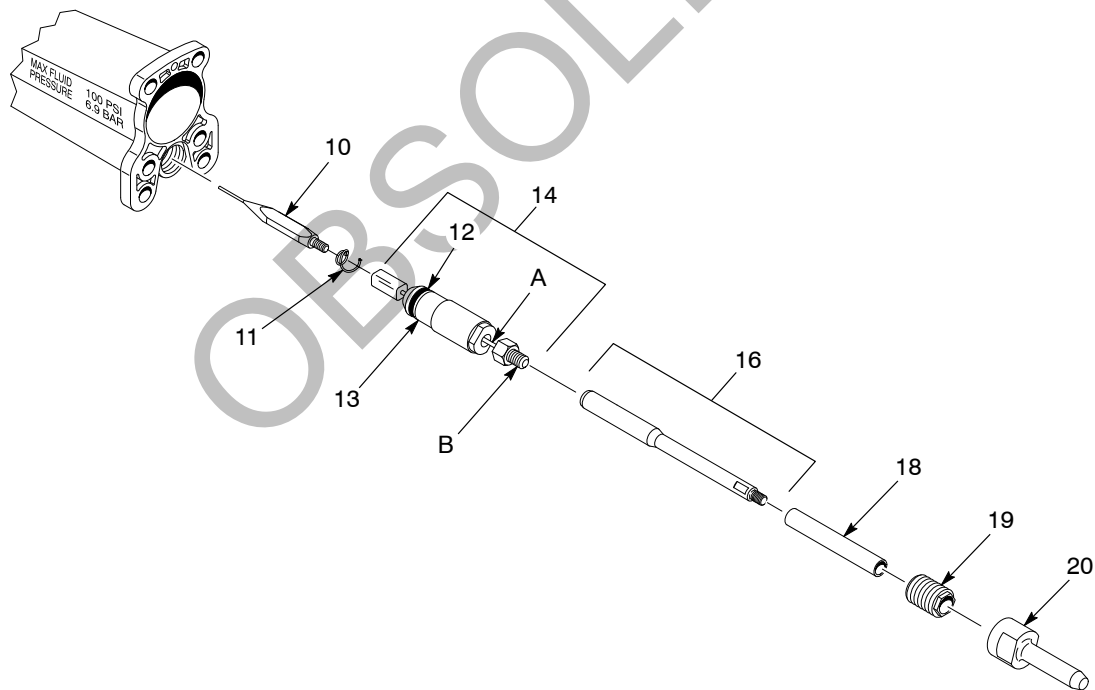

Figure 7-7 Packing Cartridge and Needle Replacement
**NOTE:** See Figure 7-7. The contact spring (11) may come out with the needle.
2. See Figure 7-7. Inspect the contact spring (11) and replace if damaged.
**NOTE:** A removable threadlocking adhesive can be applied to the threads of the new needle (10) if there are problems with the needle backing out.
See Figure 7-7.